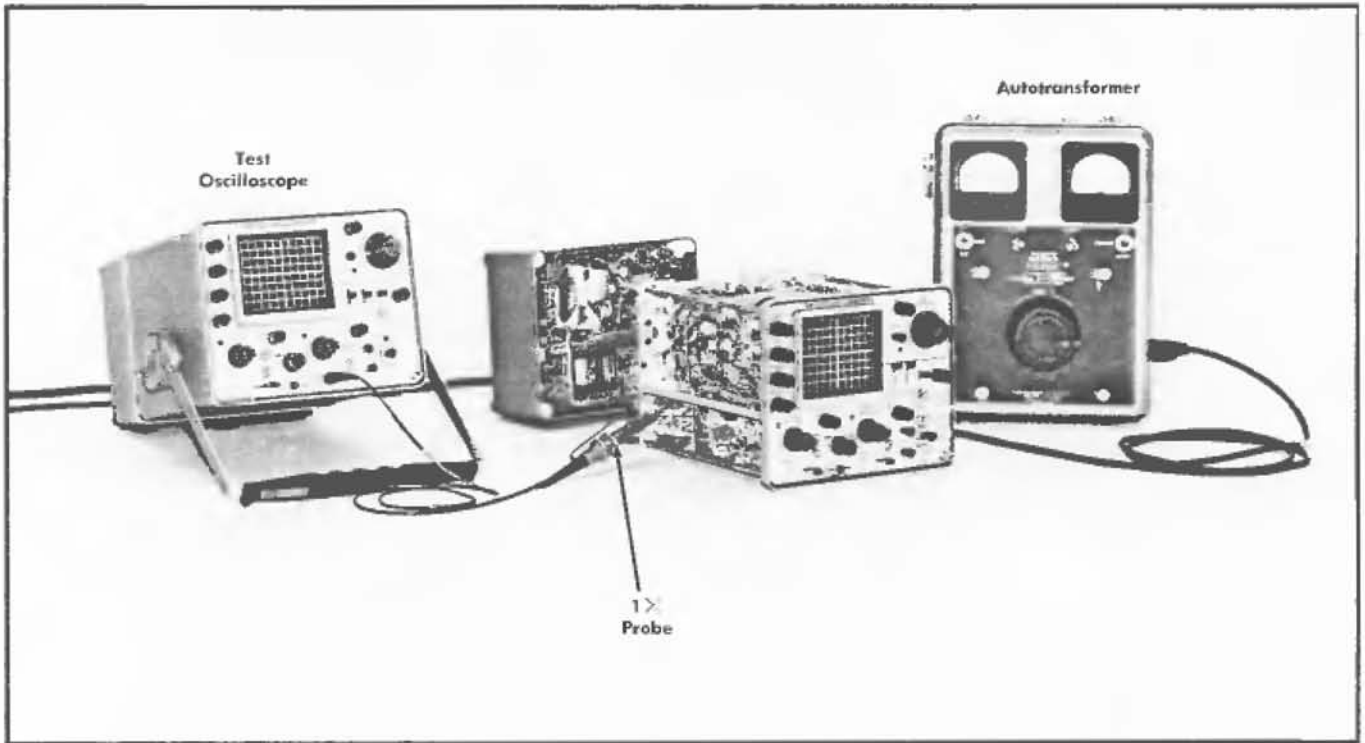

Fig. 6-6. Initial test equipment setup for steps 3—5.
- a. Test equipment setup is shown in Fig. 6-6.